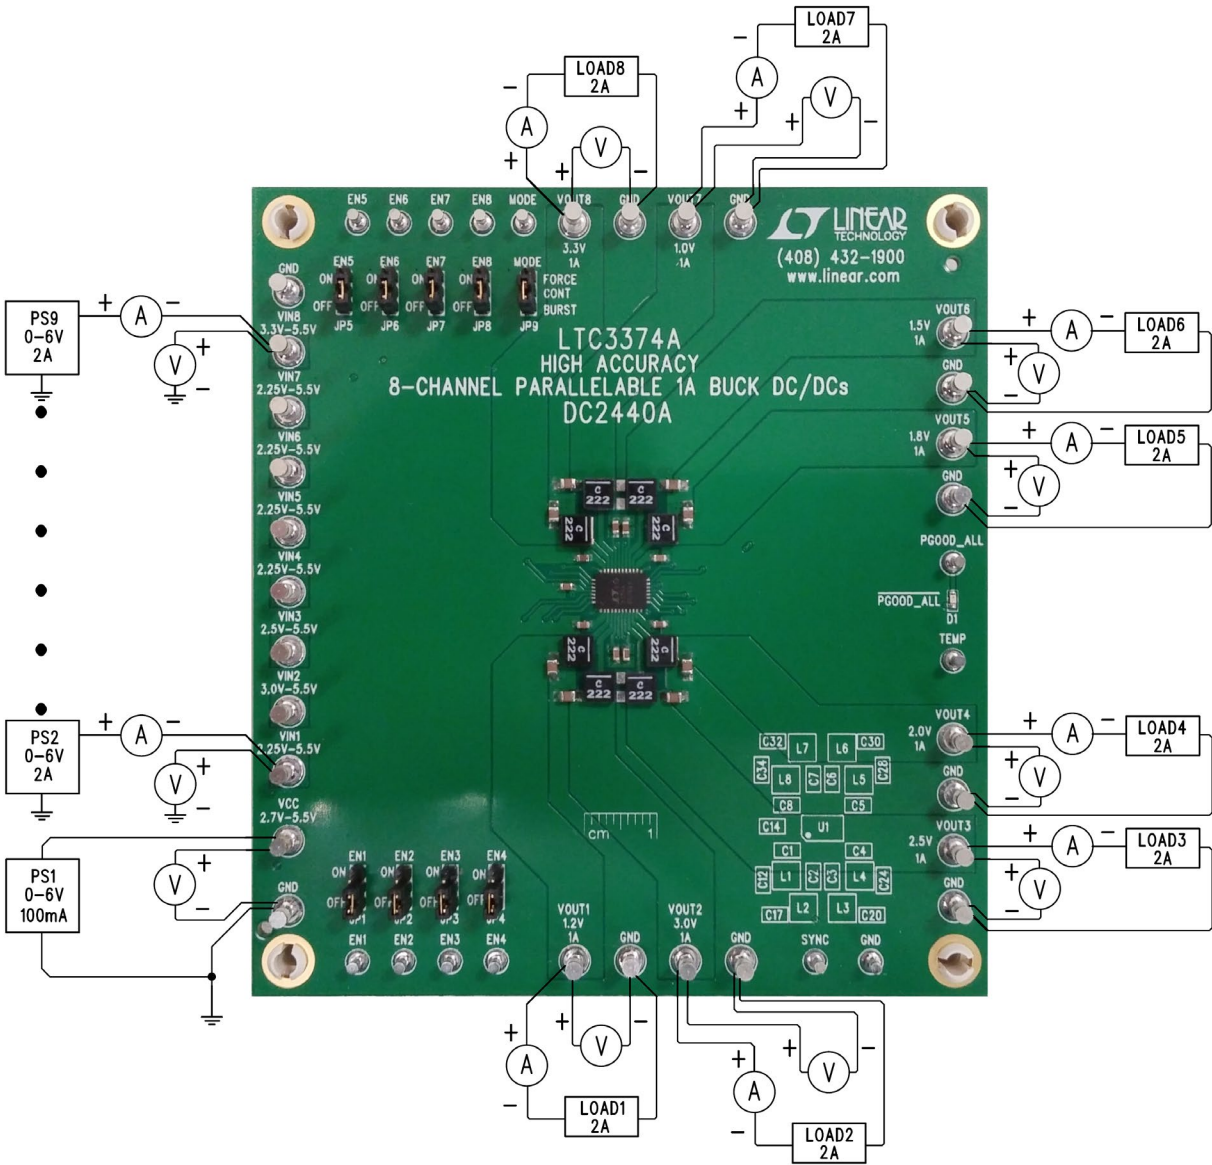
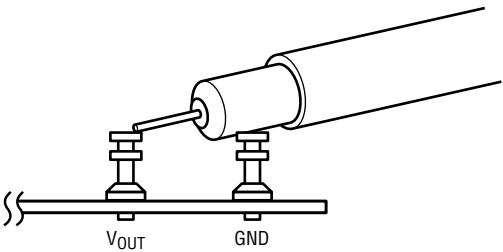

Figure 1. Proper Measurement Equipment Setup
Figure 2. Measuring Input or Output Ripple
The DC2440A is easy to set up to evaluate the performance of the LTC3374A. Refer to Figure 1 and Figure 2 for proper measurement equipment setup and follow the evaluation procedure below.
Note: When measuring the input or output voltage ripple, care must be taken to avoid a long ground lead on the oscilloscope probe. Measure the input or output voltage ripple by touching the probe tip directly across the V_{IN} or V_{OUT} and GND terminals. See Figure 2 for proper scope probe technique.
3. With power off, connect a 0V to 6V, 100mA power supply to V_{CC} and GND with a voltmeter as shown in Figure 1.
4. With power off, connect a 0V to 6V, 2A power supply to each V_{IN} and GND with a series ammeter and a voltmeter as shown in Figure 1. A single 0V to 6V, 10A supply can be used instead to supply all V_{IN} inputs simultaneously.
7. With power off, connect a 0A to 2A load to each V_{OUT} and GND with a series ammeter and a voltmeter as shown in Figure 1.
8. Slowly increase LOAD1 from 0A to 1A and observe the output voltage. The output ripple may also be observed using an oscilloscope with the probe connected as shown in Figure 2.